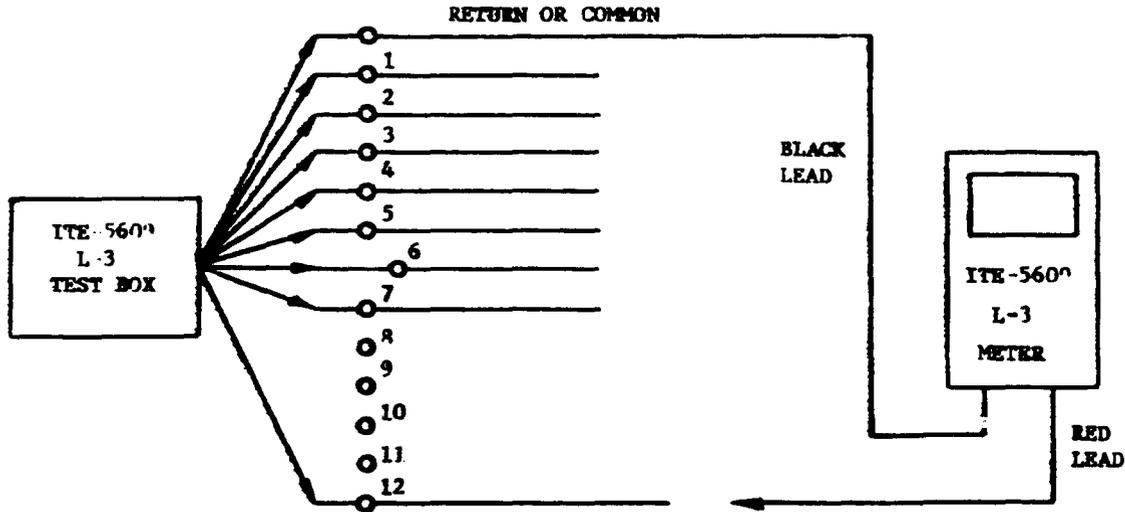

FIG. 1
4.112 Connect the ground lead of the test box to the first wire to be verified (see Figure 1). Record the connection next to the run number of that wire in the Installers running list (a blank paper may be used if preferred). Connect lead No. 1 of the test box to the second wire to be verified and record the connection next to the run number. Continue in the same manner for test block leads 2-12 as required.